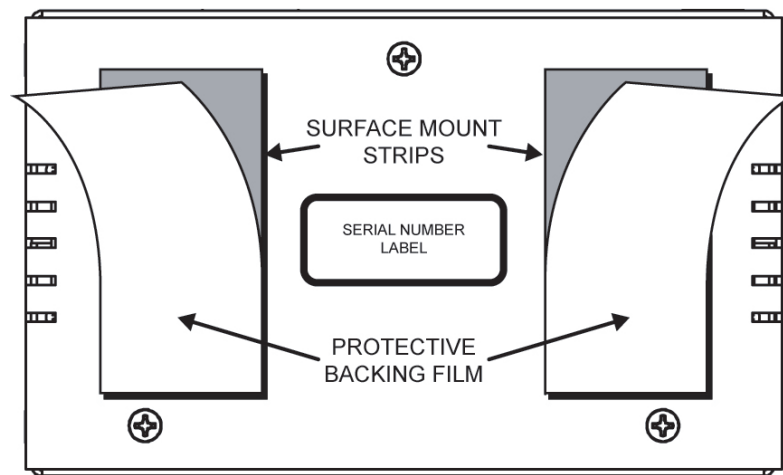

Figure 4.1 Surface Mount Installation Option
2. Adhere the **Surface Mount Strips** to the bottom side of the chassis **Figure 4.1**.